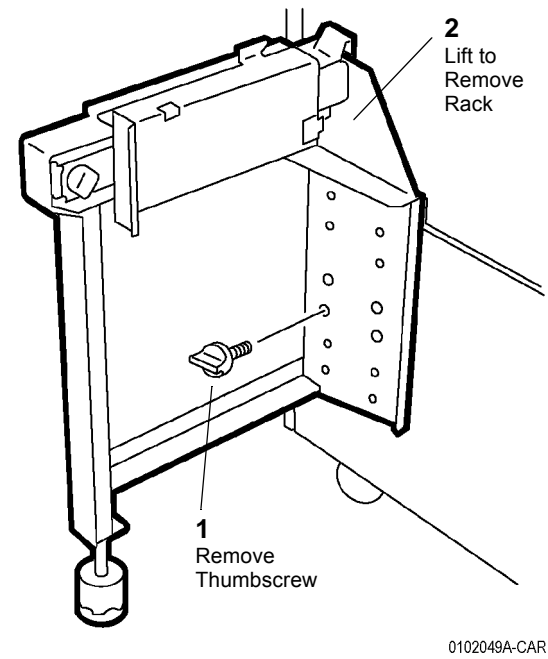

Figure 4 Removing Front Rack
NOTE: During assembly, refer to Figure 4.
5. Remove Front Rack (Figure 4).